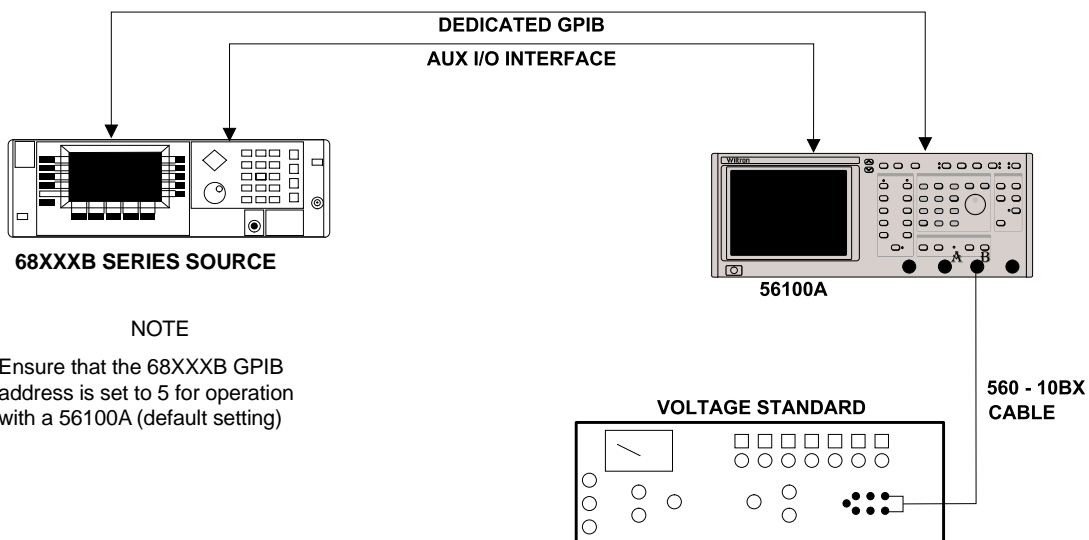

Figure 2-1. Test Equipment Setup, DC Voltage Method
- Step 1.** Set up the test equipment as shown in Figure 2-1.